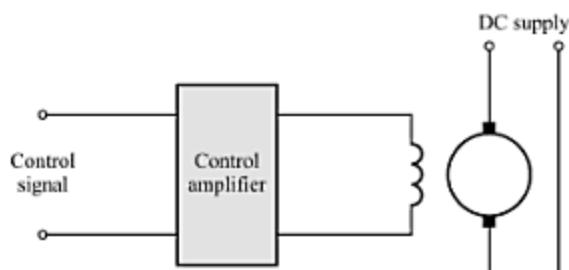

Fig. 17.1 Separately excited dc motor in a regulator.
**Regulators** Here, we seek to control the speed of the motor with high degree of accuracy. A dc shunt motor, described in Chapter 16, has good torque-speed characteristic for such applications. For better control, we can have separately excited dc motor whose field winding is excited by a control amplifier, as shown in Fig. 17.1.